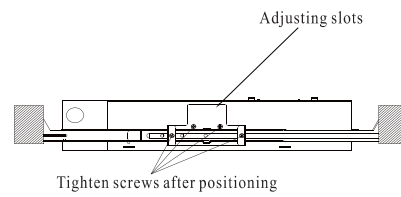

Fig. 3
3. Adjust height of metal housing so that the bottom of the housing is just above the ceiling or wall (Figure 3).